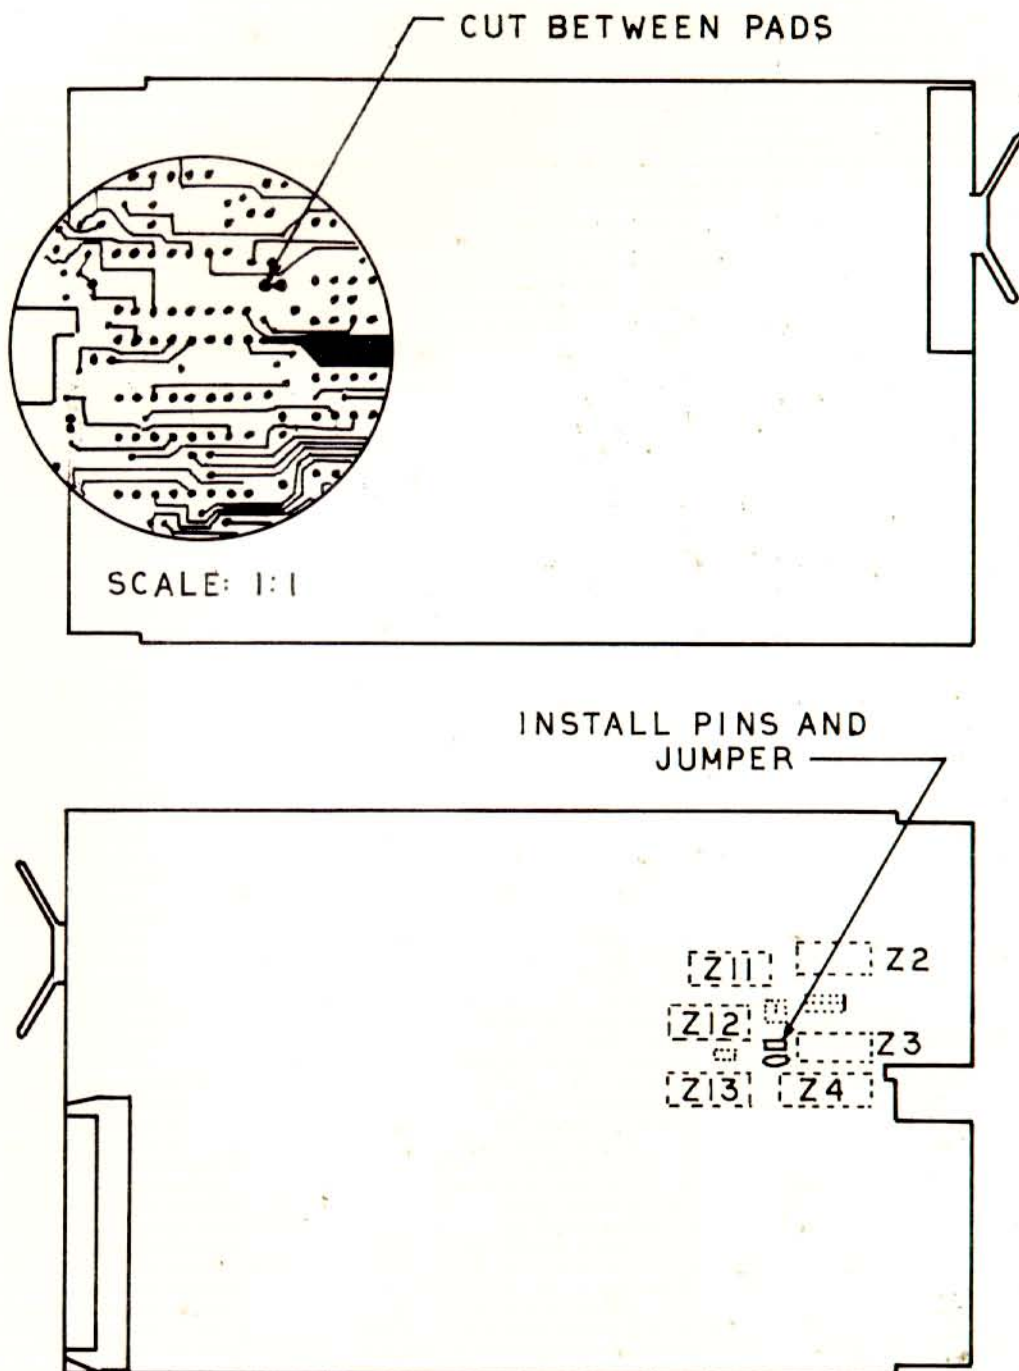

Figure 6-1
- (1) Remove the 24 pin PROM's in sockets Z27 and Z28 and save for future use.
- (2) Place the PROM from the MC-201 kit marked "108" or "110" (depending on revision level) in socket Z27. The other PROM, whose program is "109", should be placed in Z28. Care should be taken that the integrated circuits are positioned correctly with pin 1 (the notched end of the chip) pointing towards the handle. Failure to orient the chips correctly will destroy the PROMS.
- (3) The etch between the 2 jumper pads shown in Figure 6-1 must be broken. This disables the sending of bit 11 (the RX02 designation bit) to the CPU. (Pins may be installed to allow for changing of this function easily.)